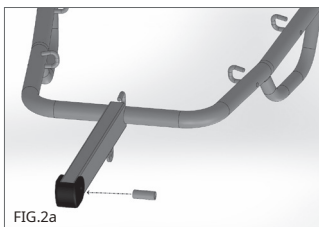

FIG.2a
3. Insert the ring into the hole of the arm intended for joining the joint with the column (Fig.2a)